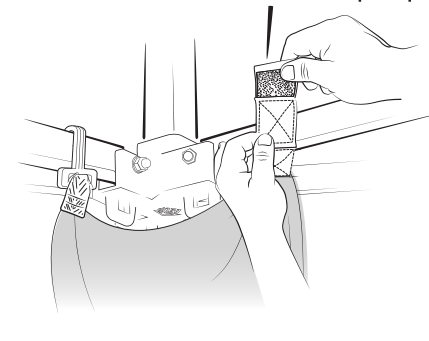
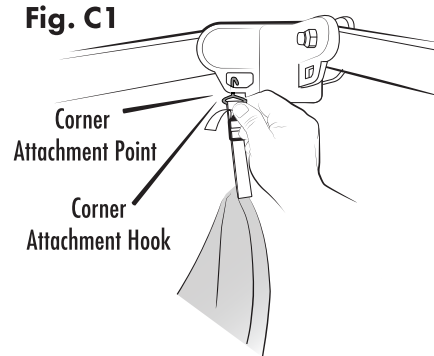

Fig. C1
Fig. C2
- (1) Locate the **Center FXT Clips** (with orange webbing). Attach the **Center FXT Clips** to peak truss of the shelter, adjacent to each other. (Fig. A)
- (2) Locate the **Center Hook and Loop Straps** (with orange webbing). Attach the **Center Hook and Loop Straps** to peak of the shelter, adjacent to each other. (Fig. B)
6. Locate the **Corner Attachment Hooks**. Attach the **Corner Attachment Hooks** to the **Corner Attachment Points**. (Fig. C1) Tighten or loosen **Adjustment Straps** to achieve desired fit. (Fig. C2)
7. Locate the **Side Attachment Hooks** on the center of each of the four sides of the Work Cube product and attach to the **Side Attachment Points**. (Fig.D) Tighten or loosen **Adjustment Straps** to achieve desired fit. (Fig. C2)